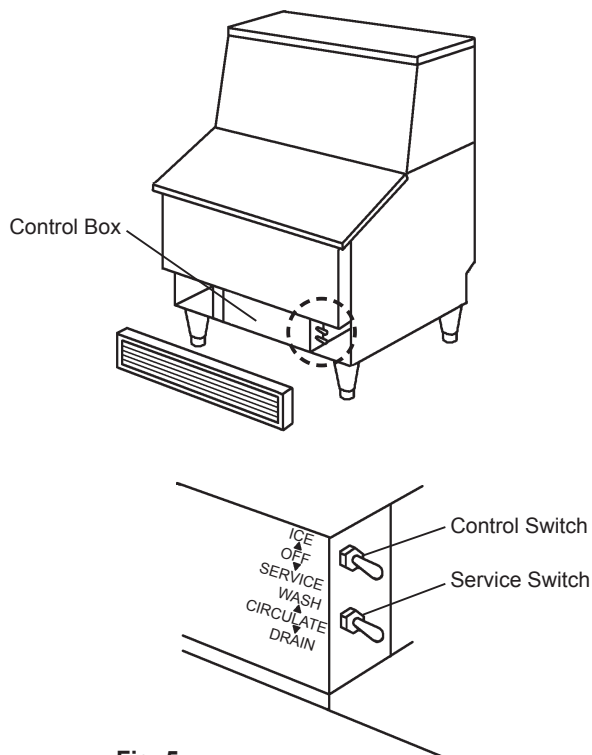

Fig. 5
- 2) Move the control switch on the control box to the "OFF" position. See Fig. 5.